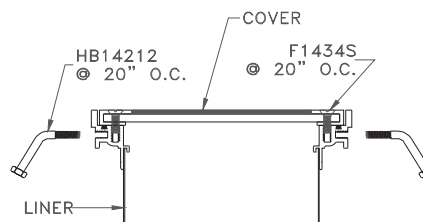

Figure 2
STEP 3. Attach the anchors (part no. HB14212) to the trench cover or access cover frame, spacing the anchors at 20" o.c. (see Figure 2).